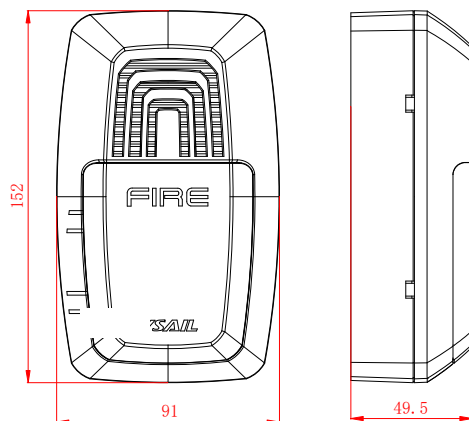

Fig. 1
- ✧ If the sounder strobe is required to be tamper-proof, knock down the arch knockout as shown in Fig. 1 and fix it with ST2.9×6.5 self- tapping screws (in this case, it can only be removed by a cross screwdriver).